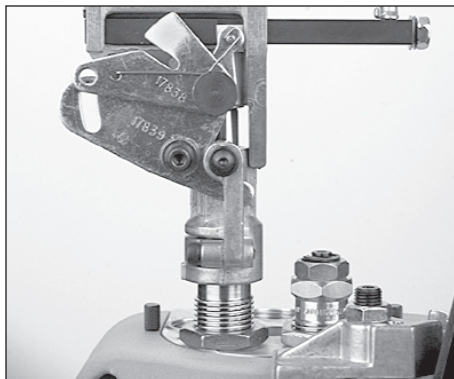

FIG 94
3. Raise the platform. Check to see how far the powder bar has traveled FIG 94.
5. Repeat step four until the powder bar travels its full distance FIG 94.